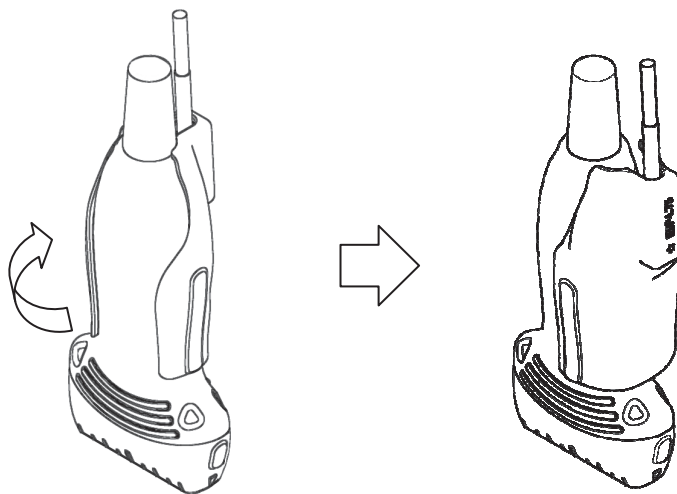

Fig. 8 How to release the Magnetic sensor attachment from the probe
- 1) Turn around the magnetic sensor attachment and remove it from the probe as shown in Fig. 8.